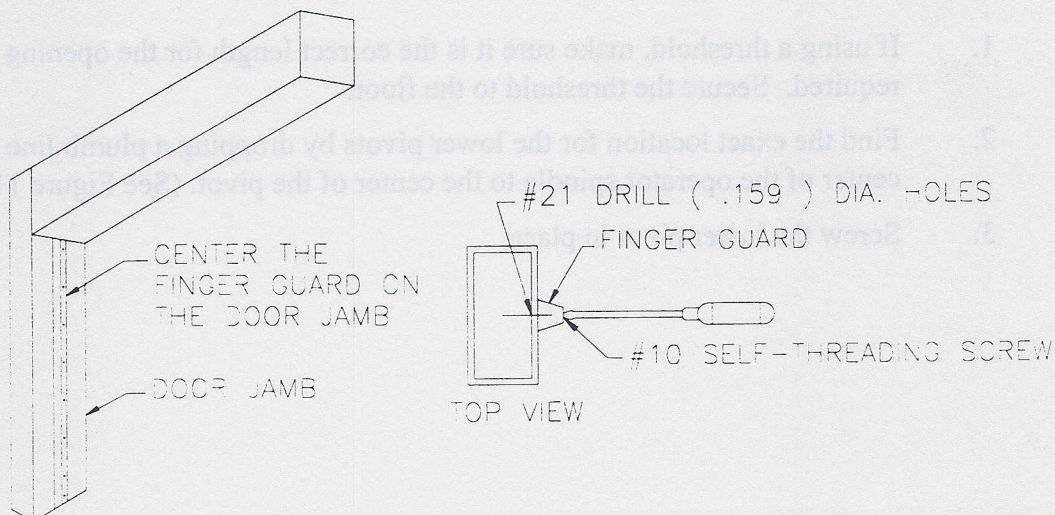

Figure 12: Finger guard installation.
2. Align the center of the finger guard with the center of the scribed line on the door jamb (See Figure 12). Press the finger guard against the door jamb. In some cases, you may have to temporarily remove the pivot if it restricts access to the lowest hole in the finger guard.